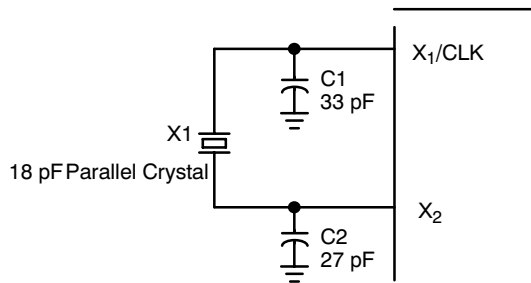

Figure 7. Crystal Input Interface
7. The crystal should be fundamental mode, parallel resonant. Do not use third overtone. For exact tuning when using a crystal, capacitors should be connected from pins X1 to ground and X2 to ground. The value of these capacitors is given by the following equation, where CL is the specified crystal load capacitance: Crystal caps (pF) = (CL-5) x 2. So, for a crystal with 16 pF load capacitance, use two 22 pF caps, including board trace capacitance (see Figure 7).